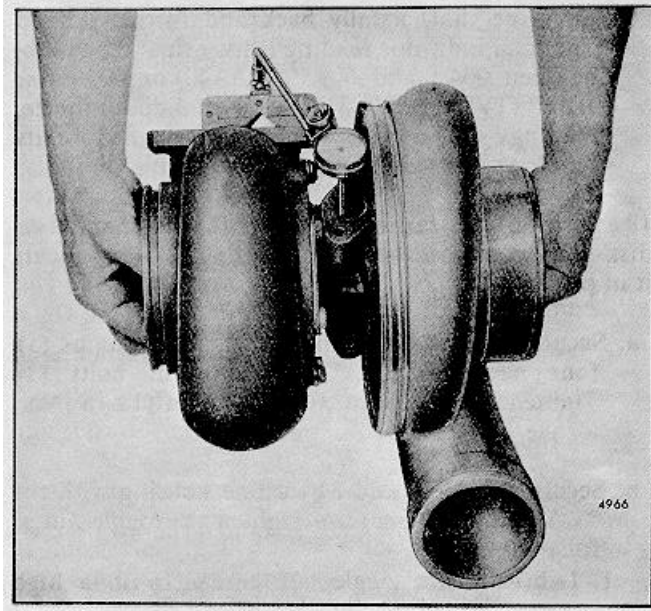

FIG. 12 - Checking Shaft Radial Movement
19. Position the compressor housing (2) as marked at disassembly against the backplate (14) and secure it in place with the "V" band coupling (1). Lightly lubricate the threads of the toggle bolt with engine oil and tighten the nut to 110-130 **lb-in** (12-15 Nm) torque.
- Position the magnetic base J 7872-2 with the swivel adaptor J 7872-3 on the flat surface of the turbine housing inlet flange as shown in Fig. 12.
- d. Grasp each end of the rotating assembly (Fig. 12) and, applying equal pressure at each end, move the rotating shaft first toward and then away from the dial indicator, creating a transverse movement in the shaft. The dial indicator displacement should be between .003 " and .007 ". If the displacement does not fall within these limits, disassemble and repair or replace the rotating assembly.